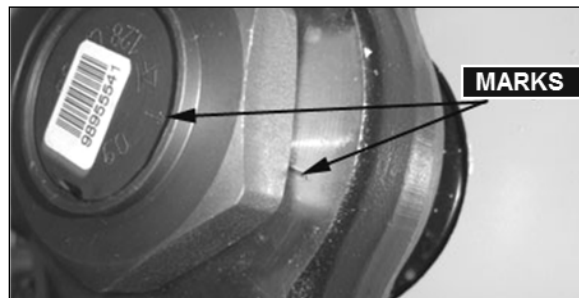
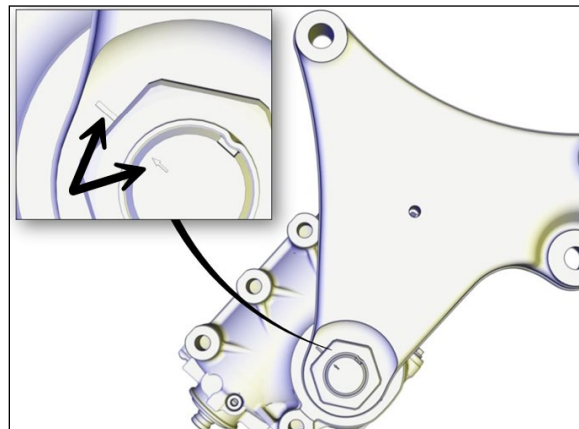

FIGURE 13: STEERING GEAR SECTOR SHAFT AND PITMAN ARM MARKS ALIGNED
FIGURE 14: MARKINGS ON T-ARM AND STEERING GEAR SECTOR SHAFT SHOWING POSITION WHEN DRIVING STRAIGHT AHEAD MUST BE COINCIDING
2. At all times, prior installation of the steering sector shaft nut, make sure the mark on the sector shaft is in line (coinciding) with the mark on the pitman arm (FIGURE 13) or the T-arm (Figure 14).